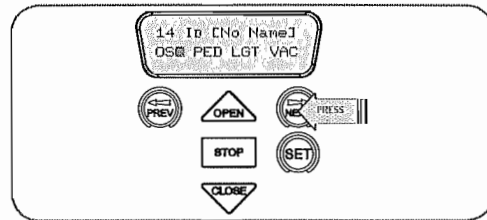

fig 30
1. Press NEXT or PREV to move cursor over Store No. (Fig. 30)